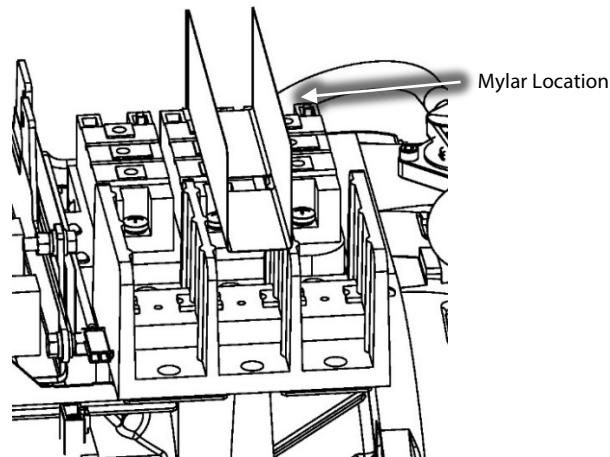

Figure 30 – Main Power Mylar Insertion
27. Reinstall the Mylar in the middle of the Terminal Block. Refer to Figure 30 (Main Power Mylar Insertion).